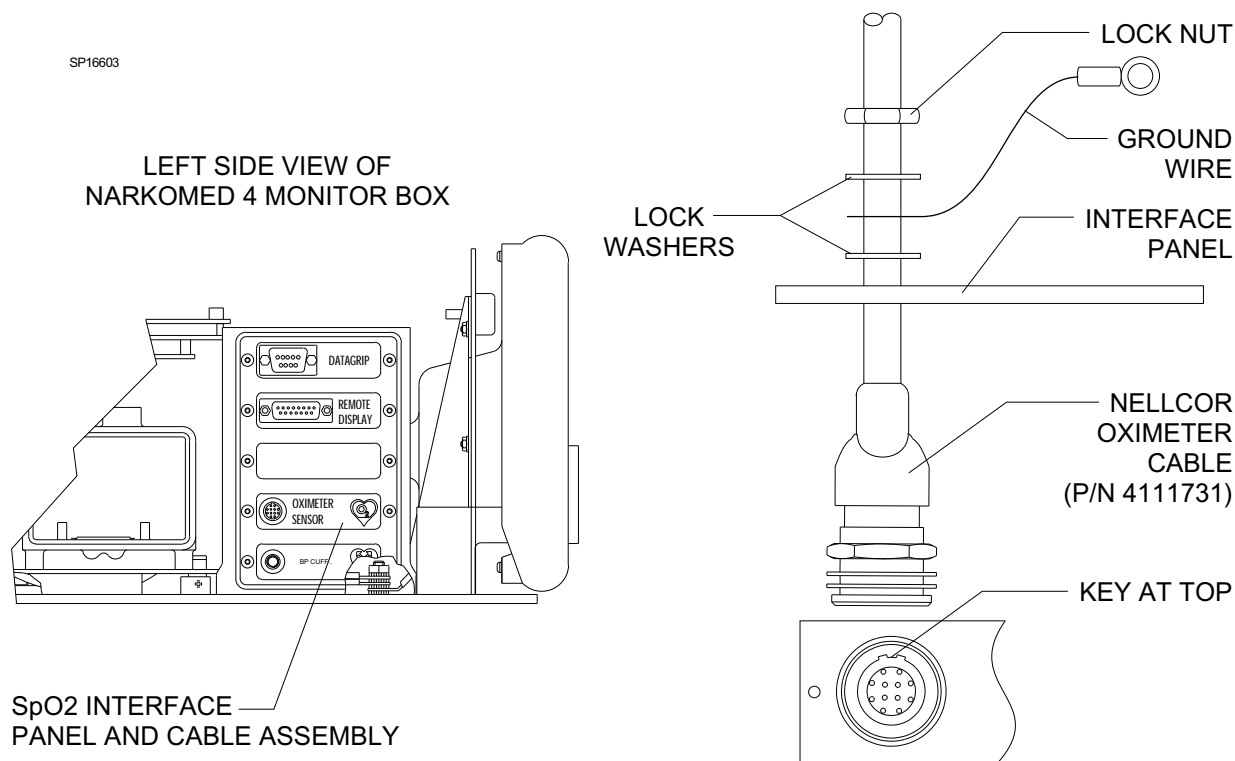

Figure 3: SpO₂ INTERFACE PANEL & CABLE ASSEMBLY
10. Remove the SpO₂ interface panel and cable assembly from the patient interface panel at the left side of the monitor chassis. See Figure 3.
12. Reassemble the SpO₂ interface panel and cable assembly using the new Nellcor SpO₂ cable (P/N 4111731) supplied in the parts kit. Refer to Figure 3 for details on the correct positioning of the cable in the interface panel.